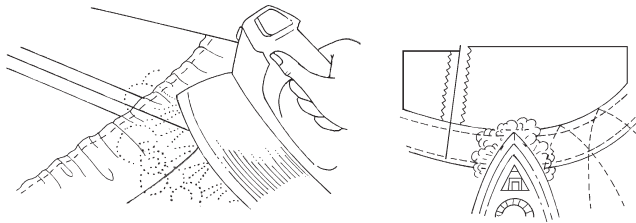

Fig. 13-5
6. If necessary, ease in extra fullness in the turned-up hem so it will not be bulky and lumpy. One way is to shrink the fullness along the hem by steam pressing in the direction of the grain. For fabrics that do not shrink, ease out the fullness by pulling up on the bobbin thread at different points along the stitching to take out the fullness. Press with steam to flatten the eased fabric. (Fig. 13-5)